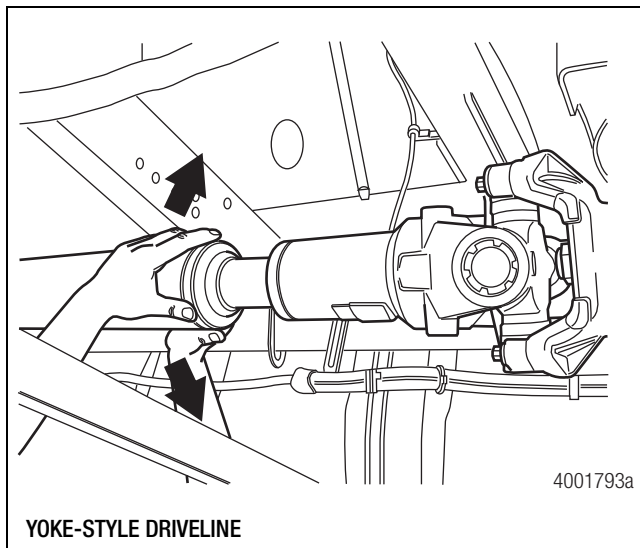
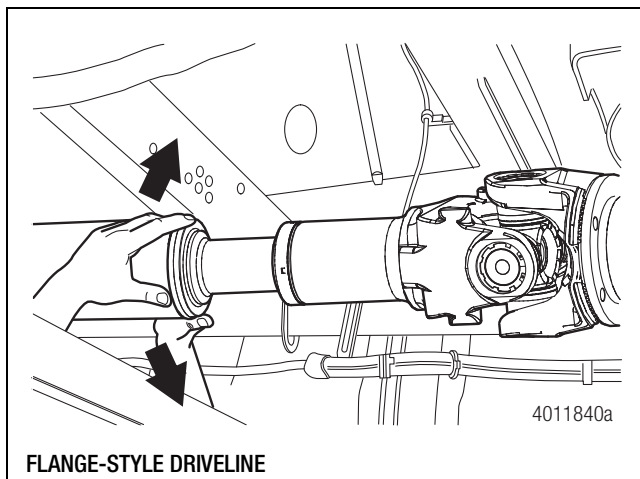

Figure 12.7
Figure 12.8
4. With your hands near the center of the driveline, move the slip yoke UP-AND-DOWN. Check the dial indicator measurement. Movement between the spline plug and slip yoke must not exceed 0.017-inch (0.432 mm). Figure 12.7 and Figure 12.8.